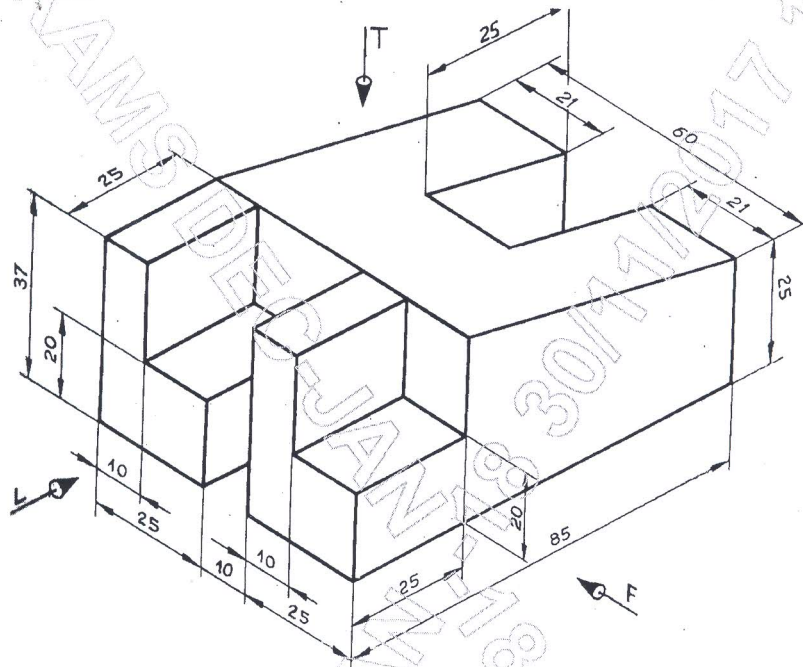

Figure 1
- Figure 1 shows the pictorial view of an object; Draw the views looking in the directions F, T and L.